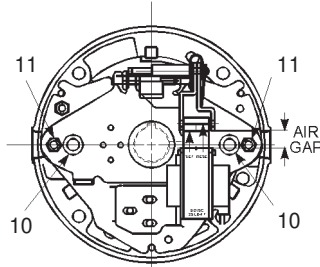

Figure 3
Turn both spring adjustment screws (11), Figure 3, equal amounts counterclockwise to decrease torque. See Table A for torque reduction permissible amounts.